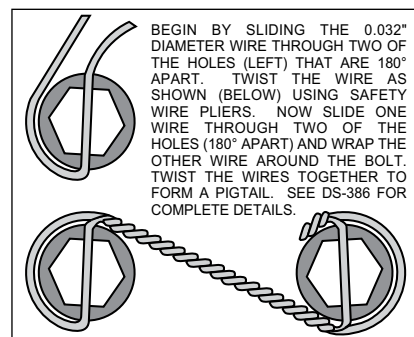

Figure 5. Safety Wire Diagram
- With the larger I.D. side of the rotor (4) facing away from the hat (3), bolt rotor (4) to hat (3) through the backside of the rotor using washers (5) and bolts (6). Apply red *Loctite*® 271 to the bolt threads and torque to 155 in-lb using a criss-cross pattern. For an added measure of security, the bolts may be safety wired using standard 0.032 inch diameter stainless steel safety wire as shown in Figure 5. Please refer to Wilwood's data sheet DS-386 (available at [www.wilwood.com/Pdf/DataSheets/ds386.pdf](http://www.wilwood.com/Pdf/DataSheets/ds386.pdf)) for complete safety wire installation instructions.